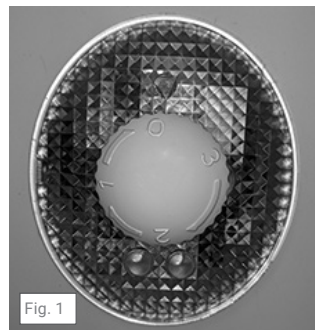

Fig. 1
- The 'ON/OFF' switch is located inside the fridge in the centre of the light (Fig. 1).
- Please see Fig.1.